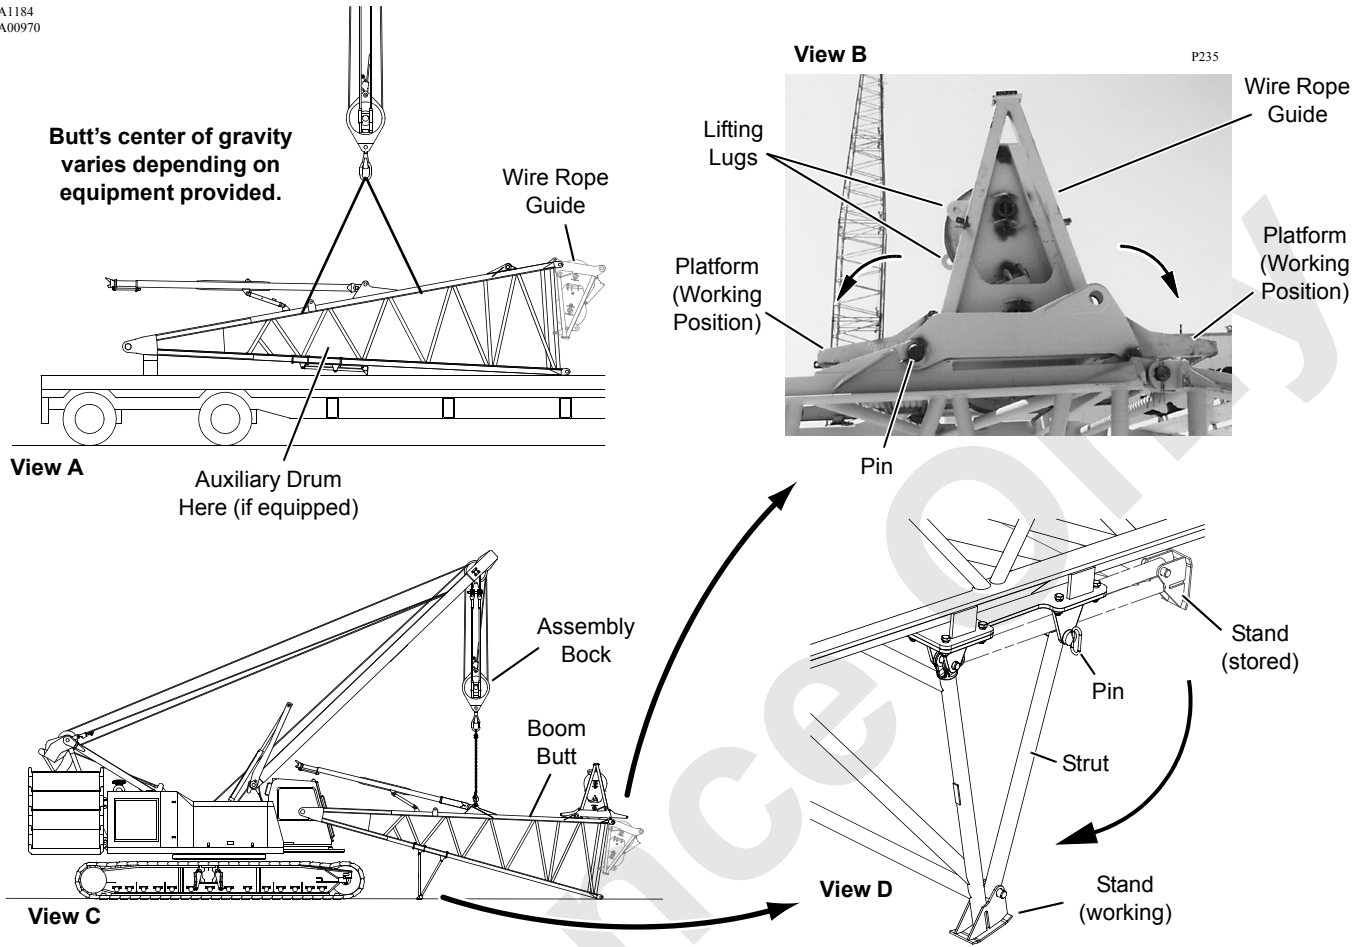

FIGURE 4-12
See Figure 4-12 for the following procedure.
14. See Figure 4-12, View D, and move boom butt support frame to storage position: